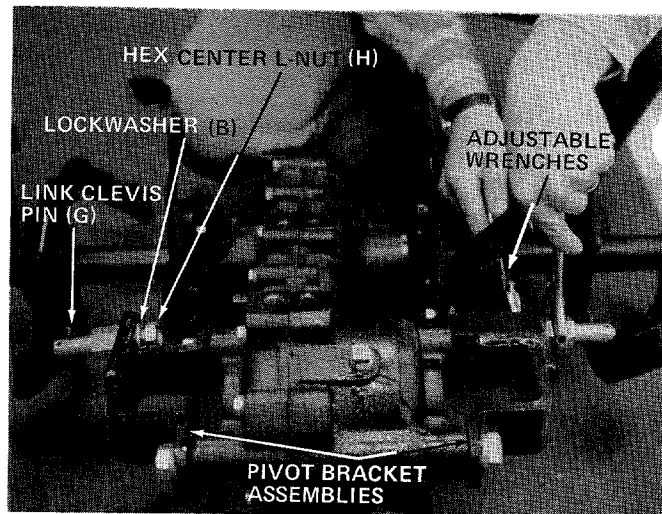

FIGURE 6
6. Insert link clevis pins (G) through outside holes of pivot bracket assemblies. Using two adjustable wrenches, tighten link clevis pins in place with lockwashers 5/8" (B) and hex center lock nuts 5/8-18 (H). See figure 6.